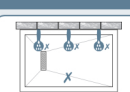

Fig 1 - No Panels/Enclosure
- Always fit a door or screen unless fitting as part of a wet room - See Fig 1 and refer to section 12 (above)